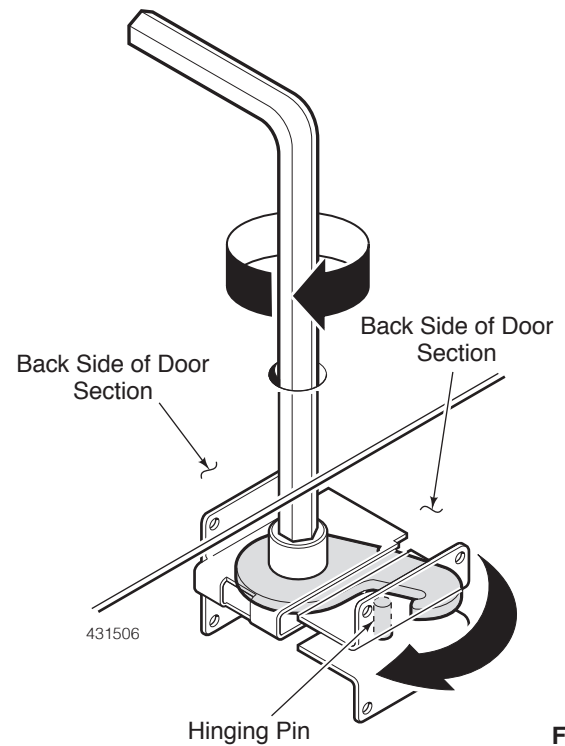

Figure 5
2. Apply silicone caulk to both long edges, then slide the door sections together. Cam lock the sections with a 3/8" hex wrench (supplied). Turn clockwise until the lock is engaged with the Hinging pin. See Figure 5.